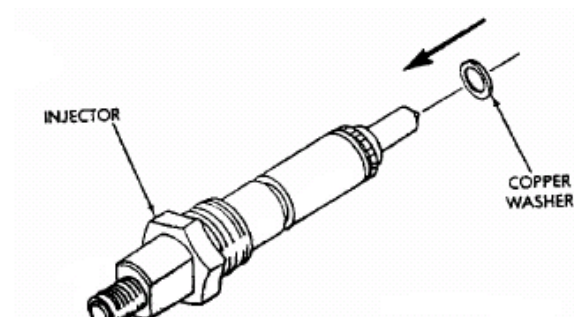

Fig 6: Injector Washer
- 2: Install a new copper washer on injector (Fig 6)